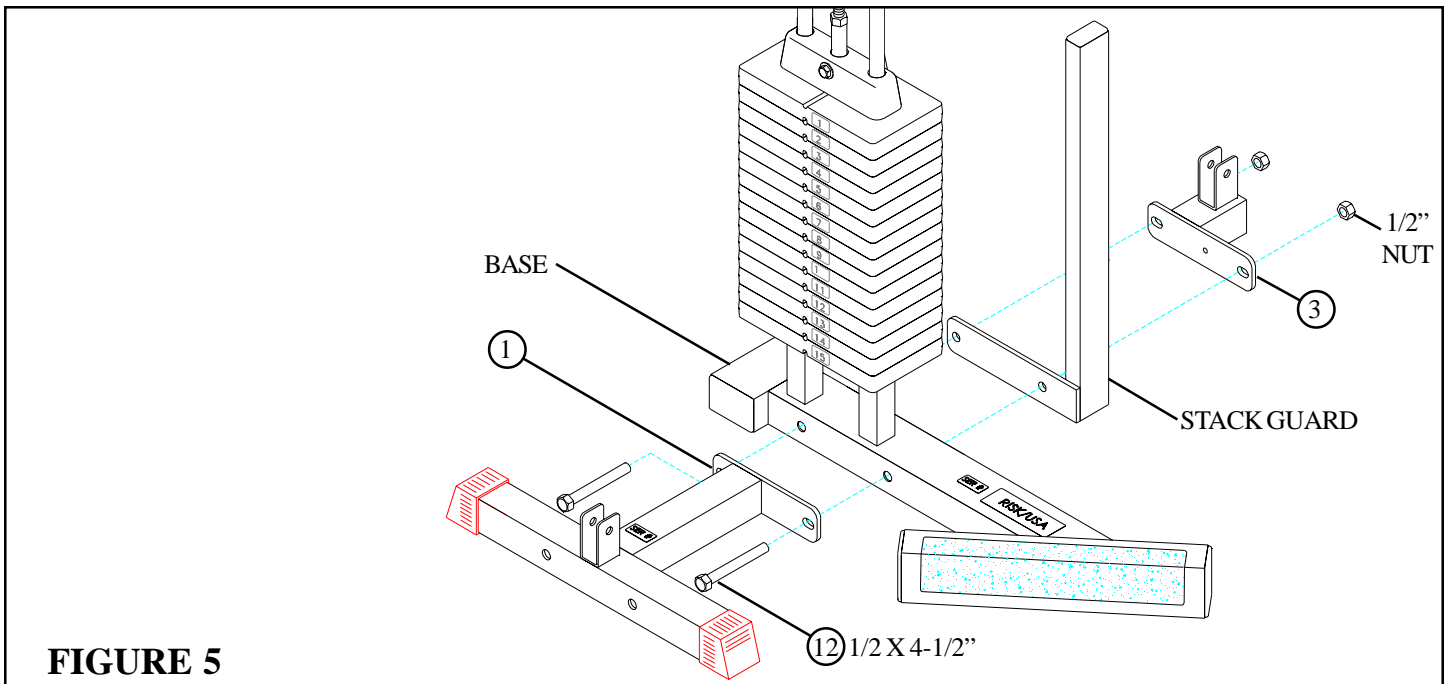

**FIGURE 4**
- Remove two 1/2 X 4" BOLTS, two 1/2" WASHERS, and two 1/2" LOCK NUTS from the BASE and STACK GUARD as shown in FIGURE 4. (NOTE: Discard the 1/2 X 4" BOLT.)